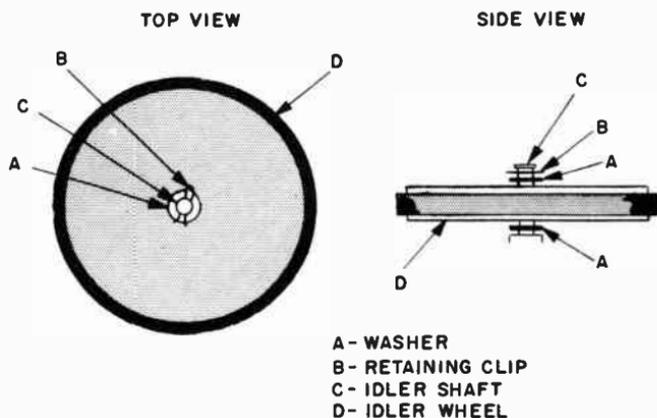

Fig. 315. *Idler wheel mounting. The assembly is kept in place by a retaining clip.*
2. The idler wheel (see Fig. 315) is mounted freely on a vertical shaft and is usually held in place by a retaining ring or clip. In most record changers, washers (usually felt) are used at the top and bottom of the wheel. The retaining ring or clip can be snapped out of the groove at the top of the shaft and the idler wheel can then be lifted off. Place the washers in a safe place so that they will not be lost.